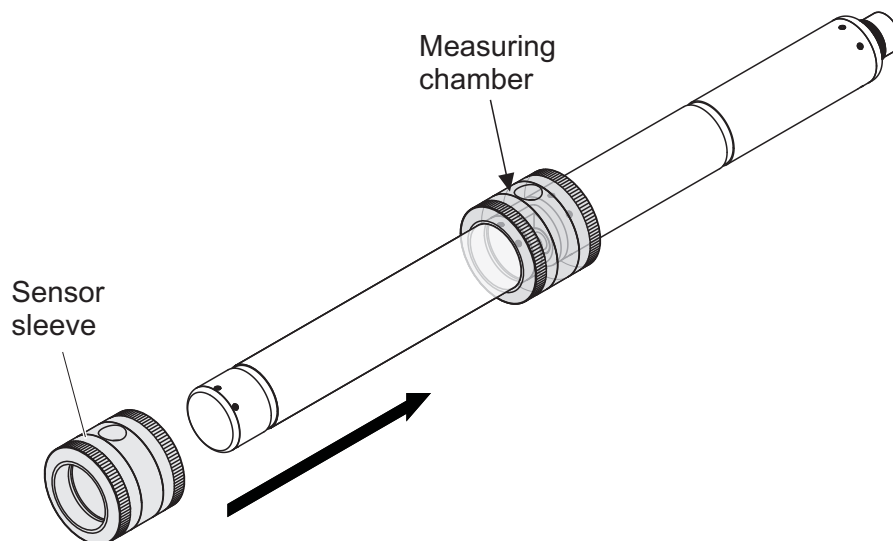

Fig. 4-5 Putting the sensor sleeve on the sensor
9.	Put the sensor in a horizontal position on a firm and vibration-free surface. Turn the filling opening of the sensor sleeve upward (Fig. 4-5).